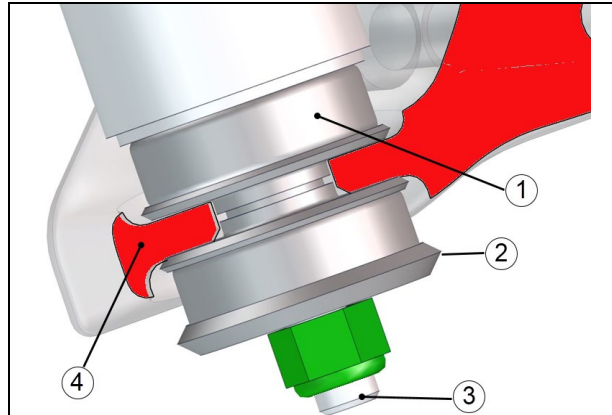

FIGURE 30: LOWER SHOCK MOUNTING BUSHINGS
1. Installation is like removal but in reverse order. Take care to respect the bushings arrangement shown in FIGURE 30.